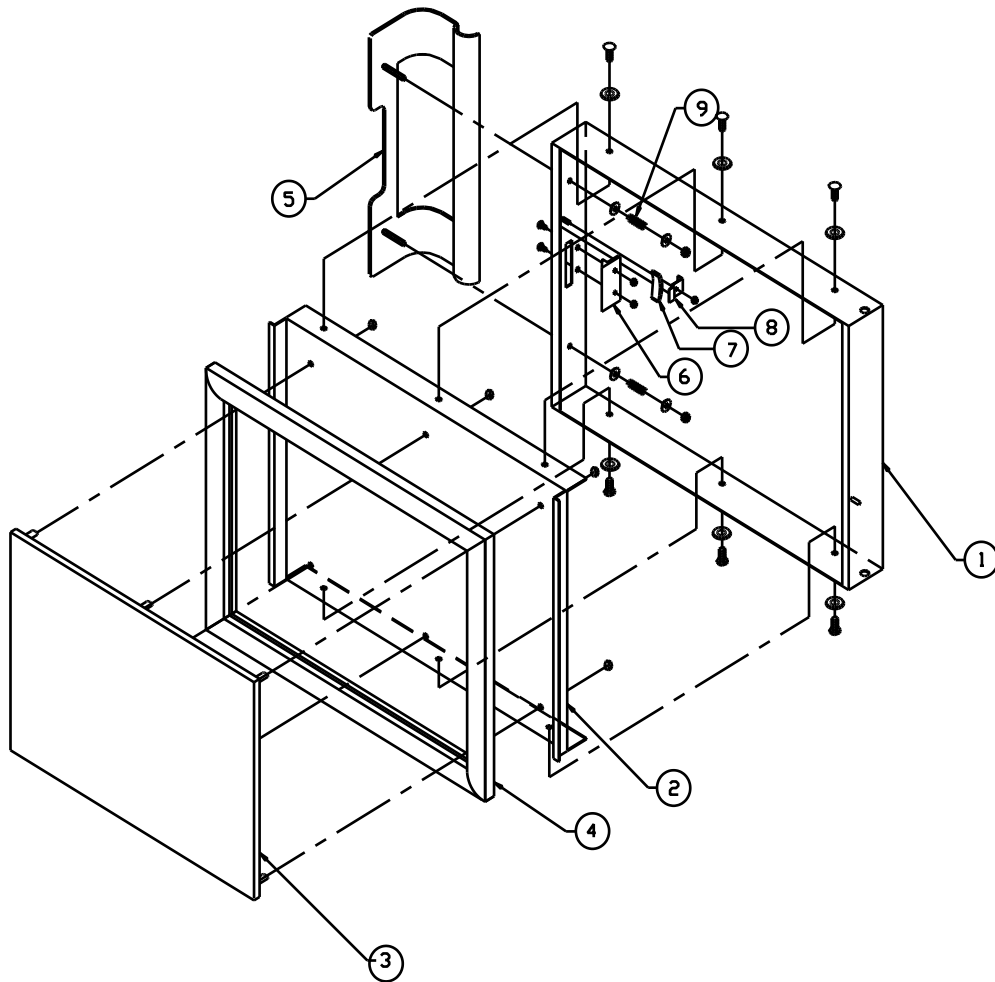

Figure 7-2 Door Assembly
5. Install the new door gasket (see Figure 7-2 for part number) to the mounting plate.